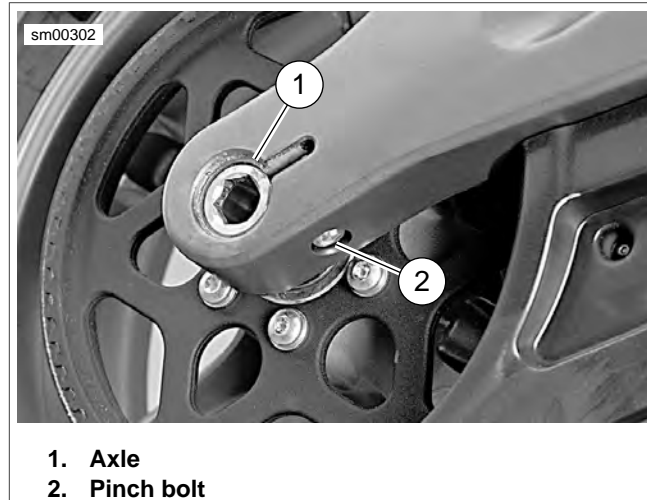

Figure 2-109. Rear Axle
2. See Figure 2-109. Loosen rear axle (1) pinch bolt (2).